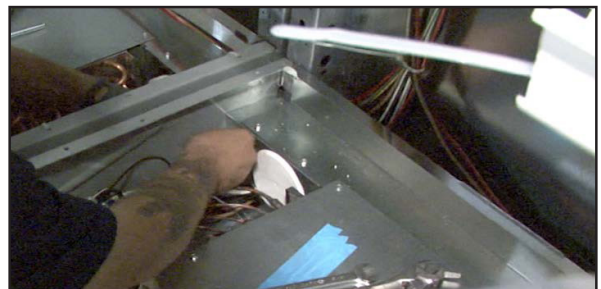

Fig. 45 Tightly align cases before bolting
**NOTE:** Before starting the bolts, the cases must be as tightly together as possible (Fig. 45) and that the bolts should never be used to draw the cases together as doing so will result in damage to the cases.